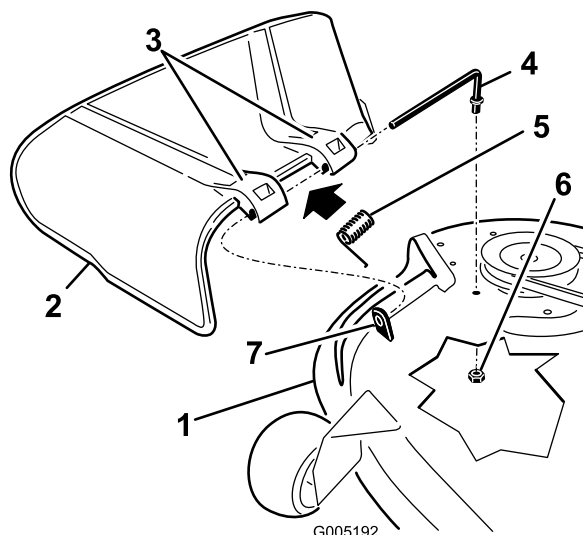

Figure 56
1. Locate items shown in Figure 56.
2. Remove the nut (3/8 inch) from the rod under the mower (Figure 56).
3. Slide the rod out of the short stand-off, spring, and grass deflector (Figure 56). Remove the damaged or worn grass deflector.
4. Replace the grass deflector (Figure 56).
6. Place the spring on the rod, with end wires down, and between the grass deflector brackets. Slide rod through second grass deflector bracket (Figure 56).
7. Insert rod at front of grass deflector into short stand-off on deck. Secure rear end of rod into the mower with a nut (3/8 inch) (Figure 56).